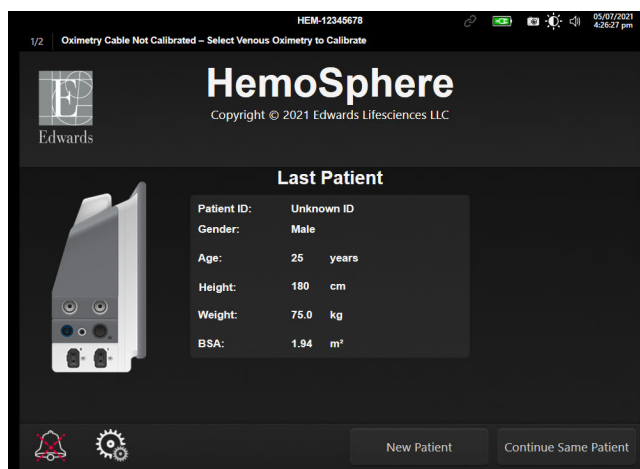

Figure 6-1: New or continuing patient screen
After the system is turned on, the user has the option to either continue monitoring the last patient or to start monitoring a new patient. See Figure 6-1 on page 136.
1. After turning on the monitor, the new or continuing patient screen appears (Figure 6-1 on page 136). Touch **New Patient** and continue to step 6.